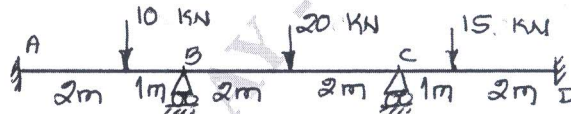

Fig.Q6
- 6 Analyze the continuous beam shown in Fig.Q6 by stiffness matrix method. Adopt displacement transformation approach.